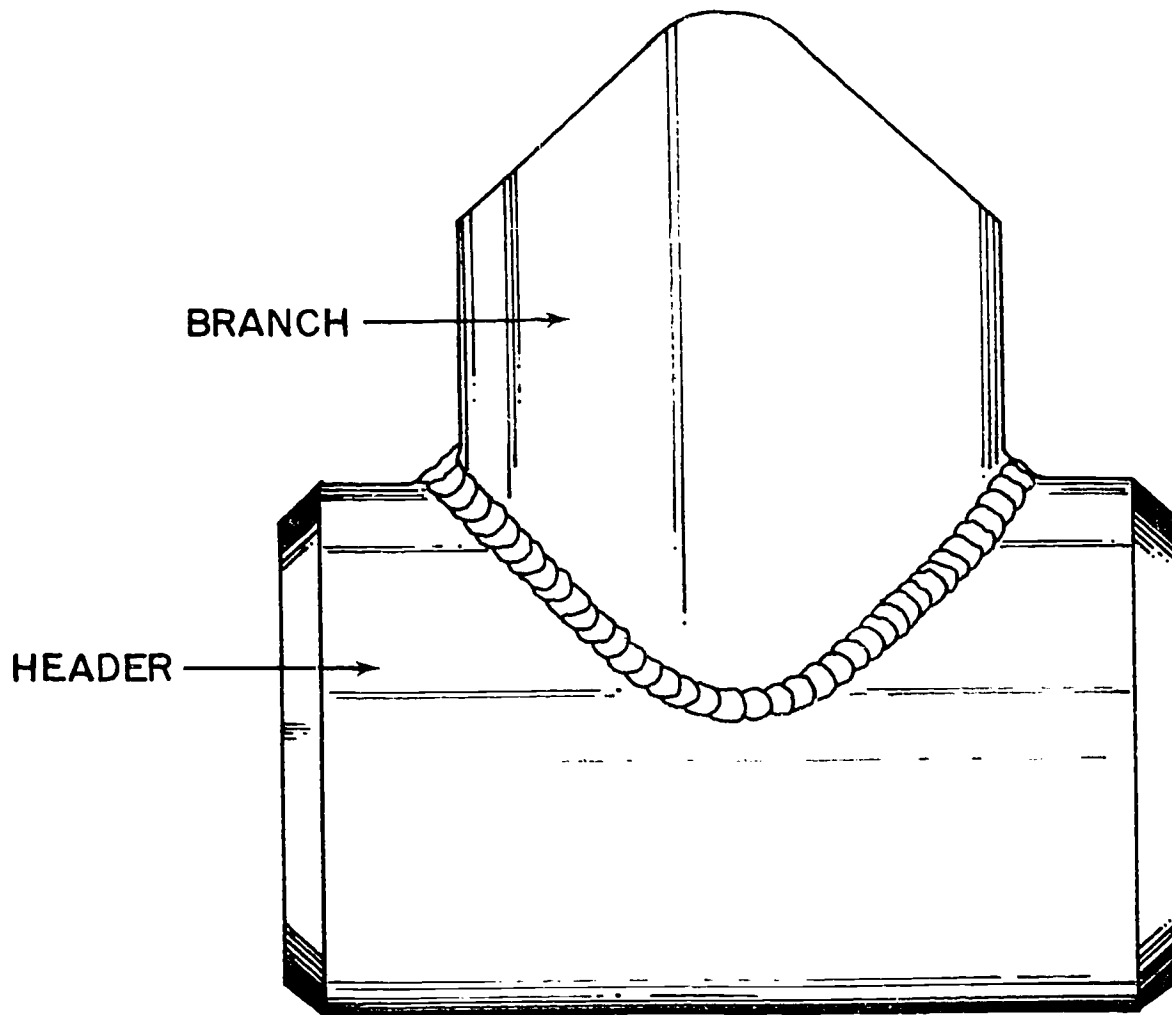

Figure 7-17. Stainless steel tee joint.
**Tee Joints.** Tee welds must be fitted up carefully. The edges must be thoroughly cleaned and all burrs removed to prevent unequal spacing around the joint. The edges should fit snugly and should be evenly spaced to allow for proper penetration and to prevent burn through. Tilt the torch head slightly toward the root of the joint and in the direction of travel. Take particular care to insure that penetration at the root of the weld is 15 to 85 percent of the pipe wall thickness (T). The reinforcement should not exceed the thickness of the pipe wall. The contour of the bead should be slightly convex. The weld metal should taper smoothly into each pipe with no overlap, and the width of the bead should be from 2 to 3 times the wall thickness. The surface appearance should be dark bronze or light purple. A completed tee joint is shown in figure 7-17.